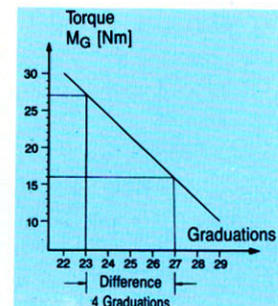

Fig. 3
- Manually screw on adjusting nut (1) until contact is made with the cup springs (7).
- Continue turning until the 4 graduations (5) at the circumference of the adjusting nut (1) and the notches in the retaining ring (6) are in line with each other.
- Using a face wrench, turn the adjusting nut (1) through the number of graduations corresponding to the required torque (Fig. 3) (number of graduations as per setting diagram).
- The graduations at the circumference of the adjusting nut (5) and retaining ring (6) must remain in the same position.
- Put Loctite 242 onto the securing screw (2) and screw it into the adjusting nut (1).